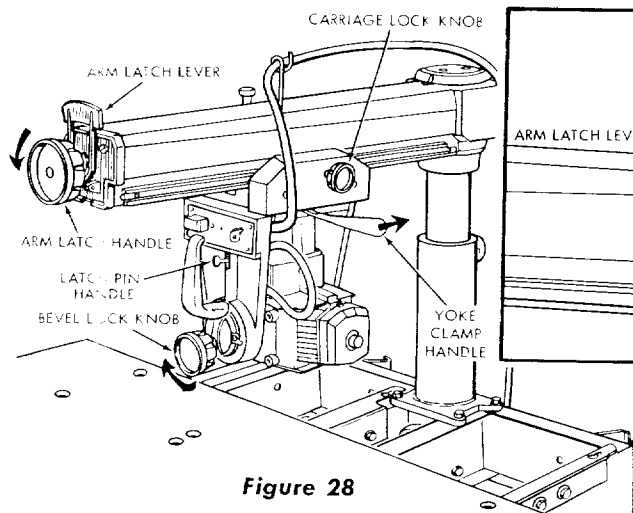

Figure 28
- c. Rotate the arm latch handle (knob) 1/4 turn counter-clockwise. (See figure 28.) Make sure the yoke clamp handle and bevel lock knob are tight.
CAUTION: When moving the radial arm in any direction beyond 45° (left or right) always pull out the arm latch lever (figure 28) or loosen the arm latch handle (knob) counterclockwise until it stops, to prevent damaging the arm lock pin. If damage occurs, the radial arm will not index properly at 0° and 45° , left or right.
- e. Tighten the arm latch handle (figure 28). (Refer to paragraph entitled "Precision Indexing" for detailed instructions on indexing the radial arm.)